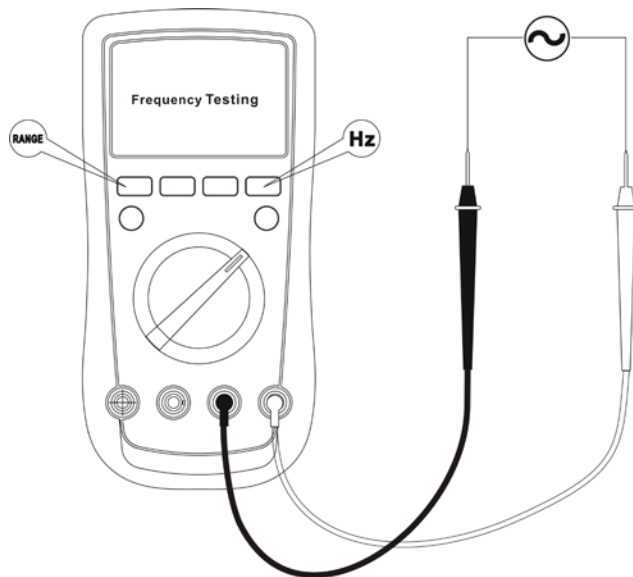

Figure 11
H. Frequency Testing (see figure 11)